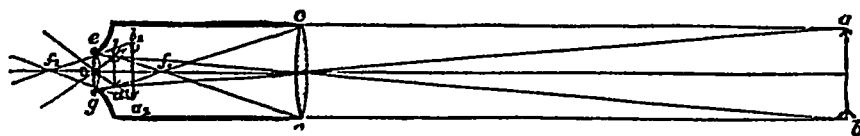

FIG 104
**The astronomical telescope**—When we magnified with a convex lens the real images obtained on p 118, we illustrated the principle of the astronomical telescope. The rays from the distant object  $ab$ , after refraction by the convex lens  $cd$ , give a real inverted image  $a_1b_1$  (fig 104). By placing the lens